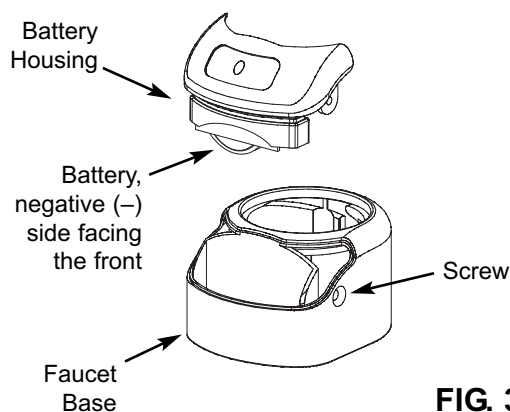

FIG. 31
1. Remove the screw on the right side of the faucet base. See Fig. 31.
2. Press the battery housing upwards from the front faucet base until it releases from the faucet base. See Fig. 31.
5. Re-install the battery housing and firmly tighten the mounting screw. See Fig. 31.